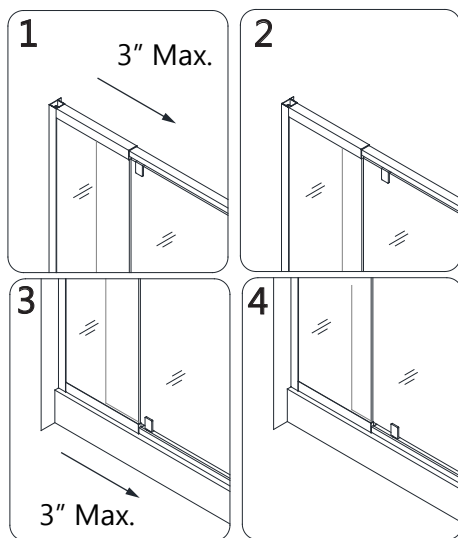

**Fig 6**
**6.** Slide the **Return Panel Assembly (#09)** into the **Return Panel Wall Profile (#11)**. (Fig 6)